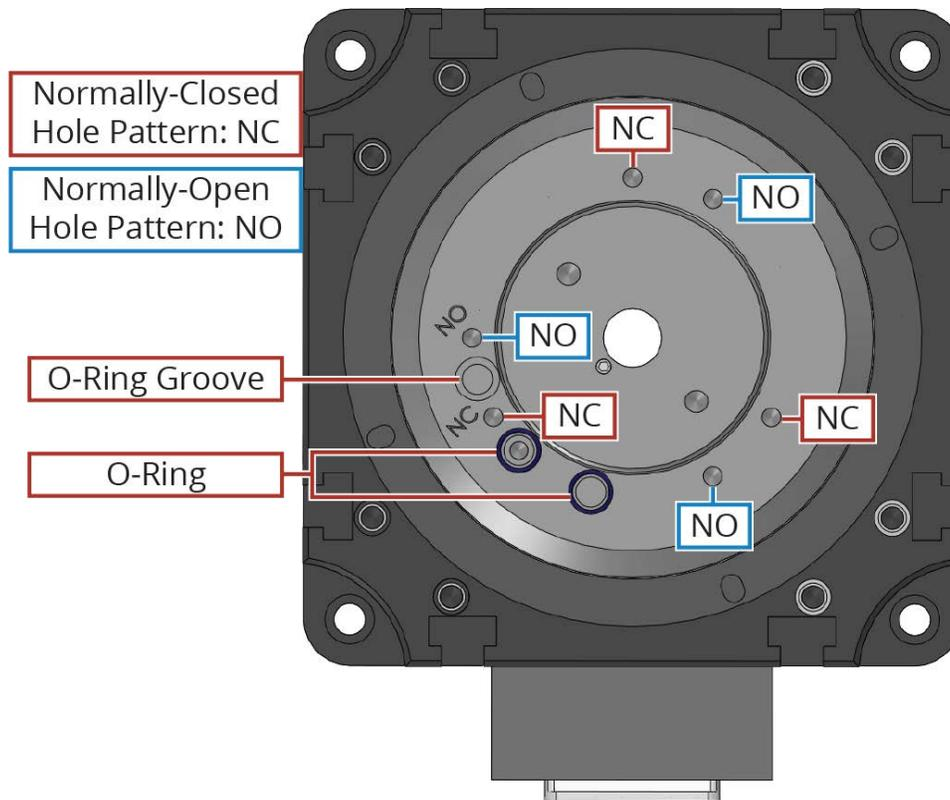
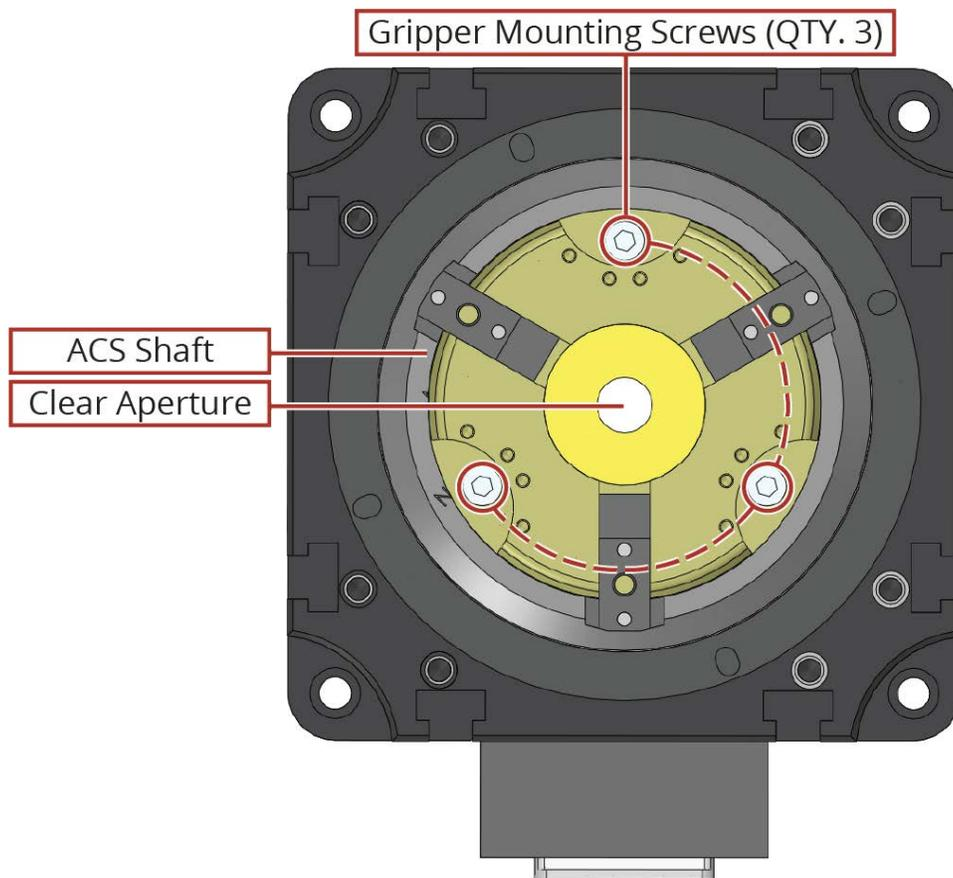

Figure 2-10: Gripper Mounting Hole Locations in ACS Shaft
Figure 2-11: Mounting Holes for Three-Jaw Gripper
The grippers are configurable in both normally-closed and normally-open modes. The center shaft of the ACS stages has two sets of mounting holes for the three-jaw grippers, one for a normally-open configuration and one for a normally-closed configuration. See Figure 2-10 for locations of these holes. Figure 2-11 shows the mounting screw locations on the gripper itself. The following is the procedure to change configurations:
4. It will be necessary to move an O-Ring on the shaft. Figure 2-10 shows two O-Rings and the three O-Ring grooves. One O-Ring should always be around the air inlet hole, and the other must be moved to help seal the gripper. Move the O-Ring as necessary so that the set screw in the gripper will be surrounded by an O-Ring when it is bolted to the stage.